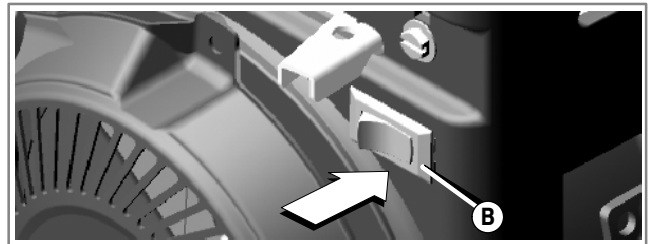
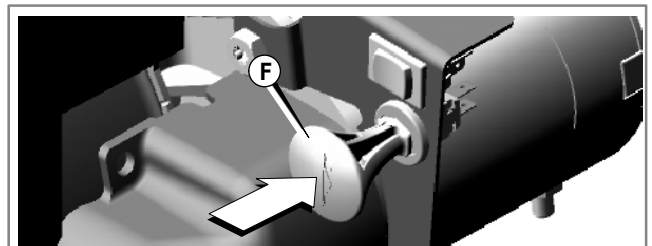

Figure 8: ON / OFF Switch
Figure 9: Safety Key
5. **Rewind Start** – On engines equipped with an ON/OFF switch (B), move the switch to the ON position (Figure 8). On electric start models, push in the safety key (F) (Figure 9).